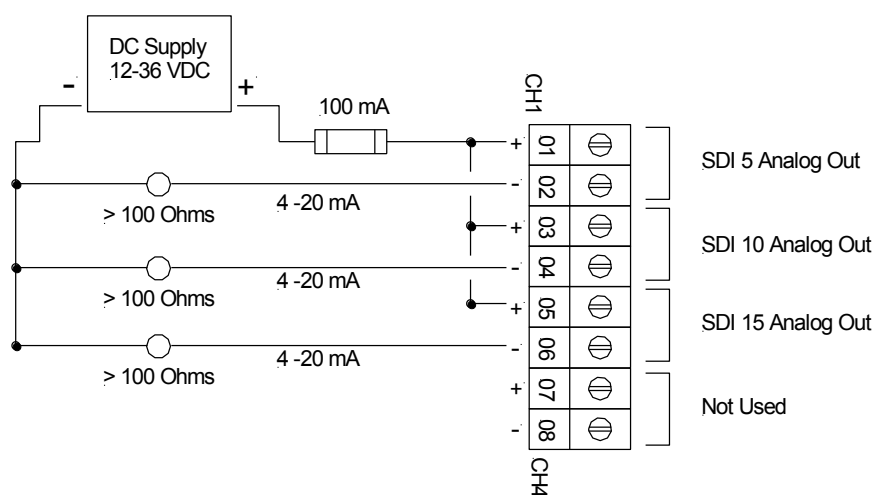

Figure A-2. Analog Loop Wiring
**Wiring** The wiring diagram for the analog outputs is shown in Figure A-2. When wiring the outputs, use shielded cable and always route the cable away from sources of interference (AC wiring, motors, etc.)
Figure A-2 illustrates the use of a common power supply. Individual power supplies may be used on each output if loop-to-loop isolation is required. Circuit protection in the analog loop(s) should be provided by the user.